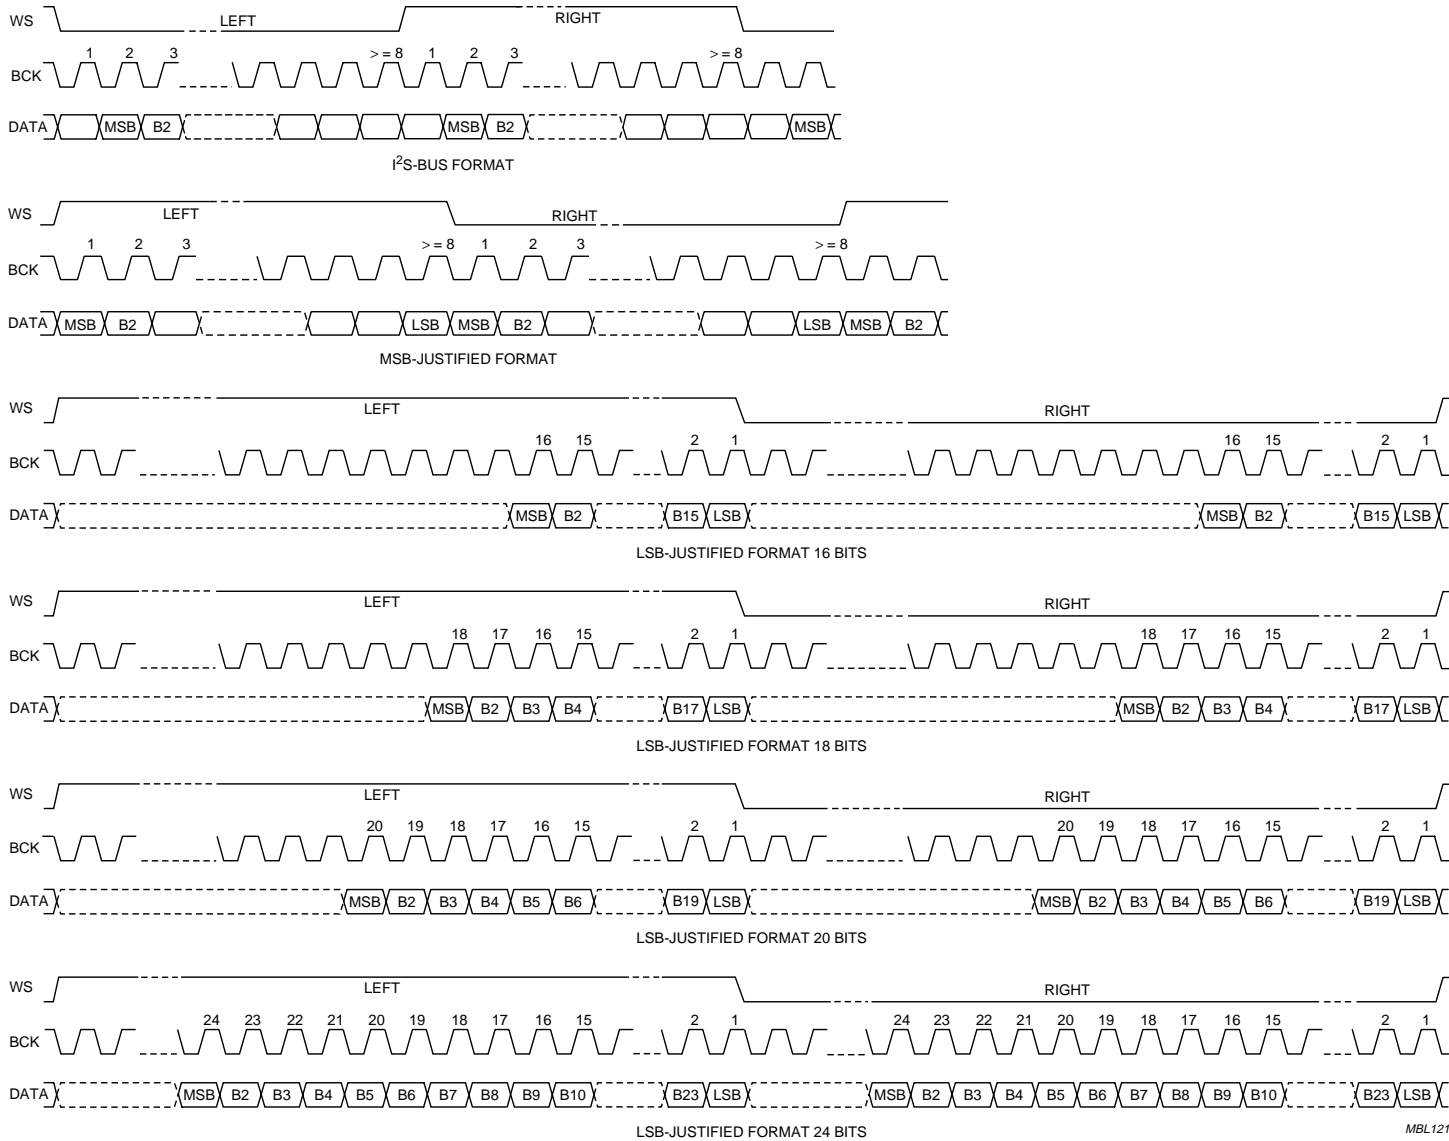

Fig.13 Serial interface input and output formats.
**Remark:** The WS edge must coincide with the negative edge of the BCK at all times, for proper operation of the digital I/O data interface. Figure 13 shows the interface signals.